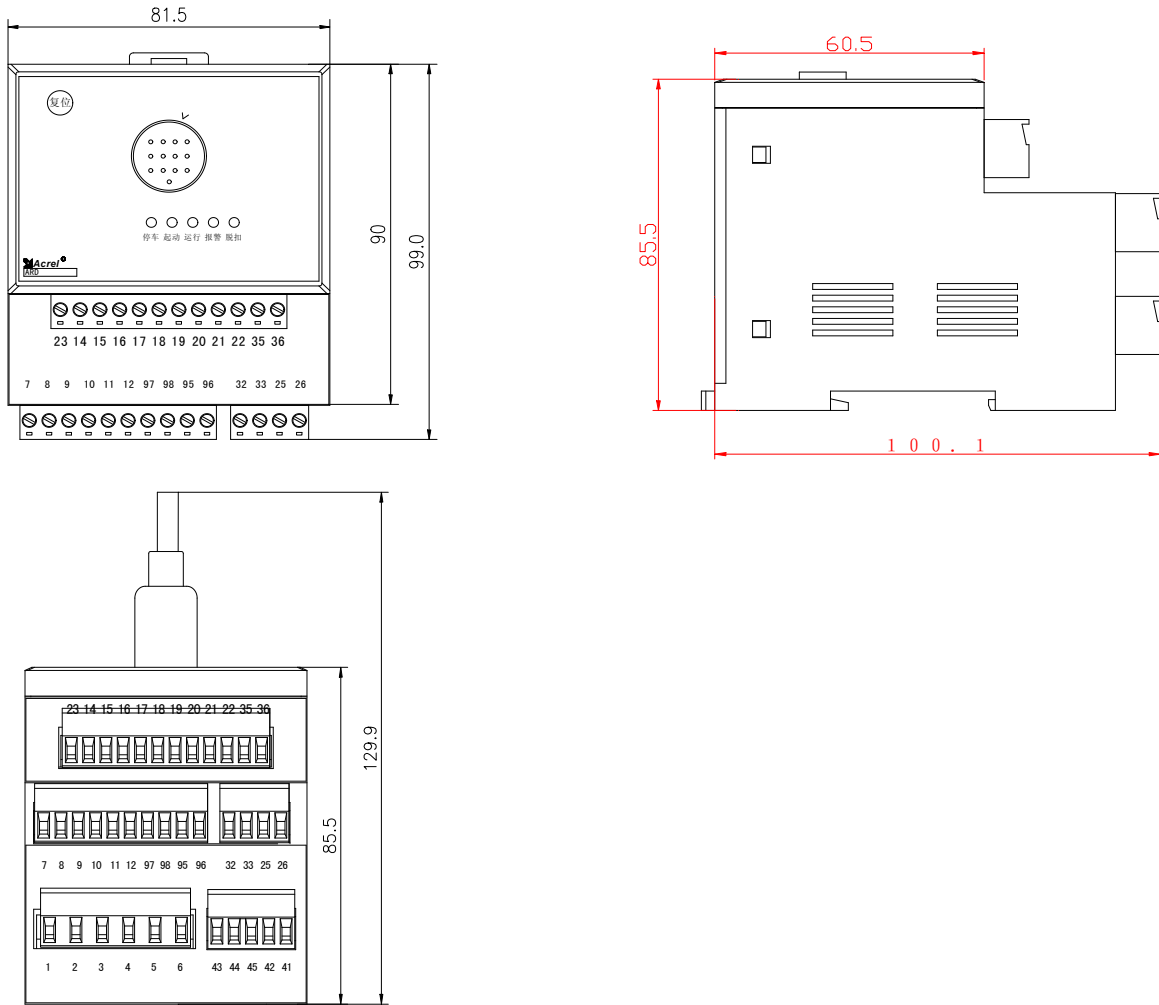

Figure 1 ARD3 Main part control module dimension
4.1 Appearance of main part control module, as shown in figure 1.